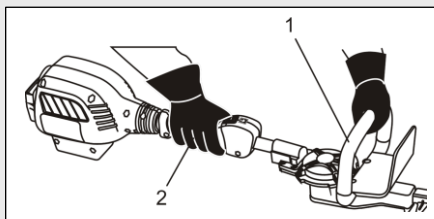

Fig. 6
Grasp the front assist handle (1) with one hand and the main handle (2) with the other hand (Fig. 6).